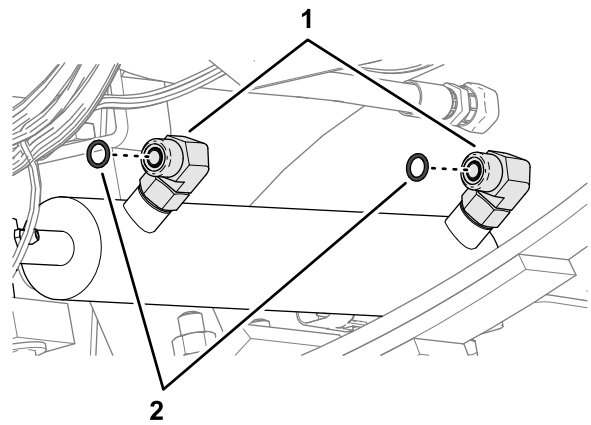

Figure 120
3. Remove the 2 O-ring in the face 90° fittings in the extend and retract ports of the steering cylinder (Figure 120).
4. Install a 2 new O-ring 9.2/1.8 mm (0.364/0.070 inch) into the groove of the 90° fittings (Figure 120).